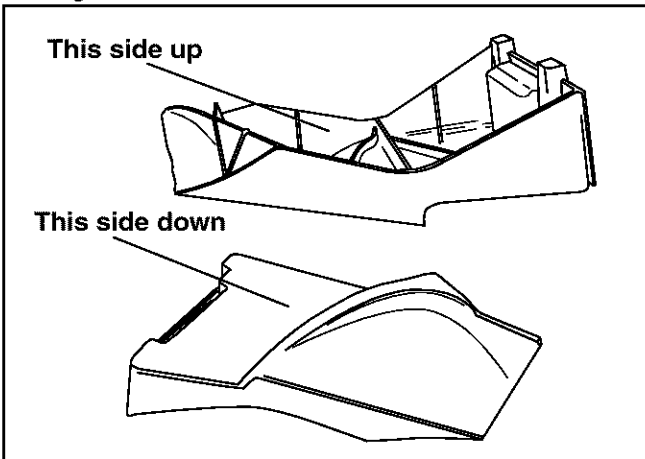

Figure 10
- For the correct orientation when installing see Figure 10.